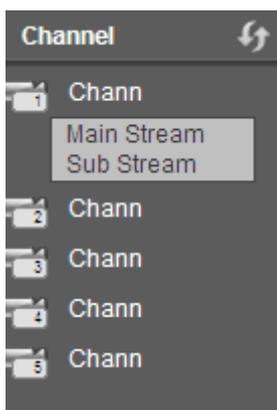

Figure 3-8
- Section 2: There are monitor channels successfully connected to the NVR. Please refer to Figure 3-8 for main stream and extra stream switch information.